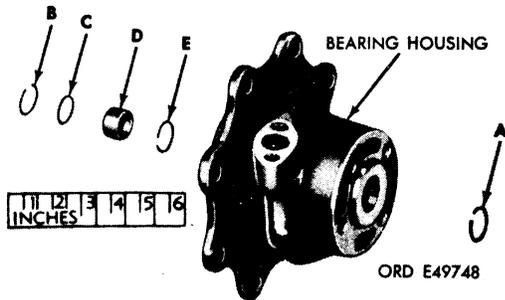

FIGURE 33. REMOVING OR INSTALLING RETAINING RINGS, SLEEVE BEARING, AND THRUST WASHER - TURBOCHARGER 7748900.
b. Turbocharger 7748900. Refer to figure 33.
- (1) Remove retaining ring (A) from compressor end of bearing housing assembly using retaining ring pliers - 10935598.
- (2) Remove retaining ring (B) from turbine end of bearing housing assembly using retaining ring pliers - 10935598 and then remove thrust washer (C) and sleeve bearing (D). Using the same pliers remove the last retaining ring (E).